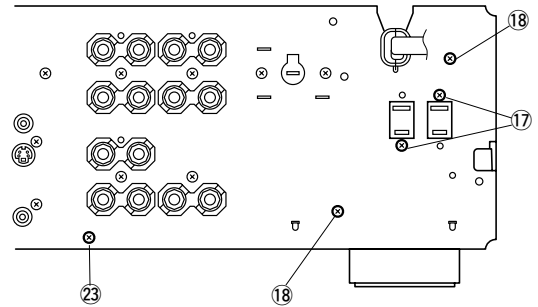

Fig. 7
- d. Remove the AM/FM Tuner, Operation (5)/(3)/(2) P.C.B. and Input (1)/(2) P.C.B.
- e. Remove 6 screws (17, 18 and 19) and then remove the Main (5)/Power (1) P.C.B. in Fig. 7 and 8.
- g. Remove 4 screws (21, 22 and 23) and then remove the Main Chassis in Fig. 7 and 8.